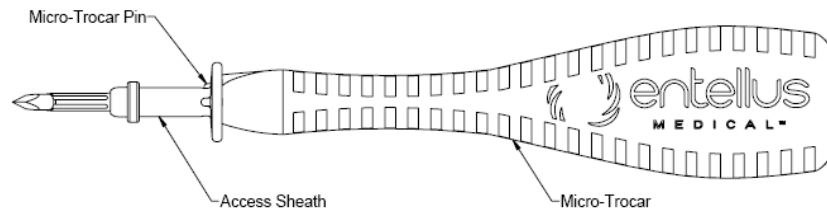

Figure 1 – Sinus Access Tools: Micro-Trocar Inserted Through Access Sheath
- b. Slide the Access Sheath onto the Micro-Trocar. Rotate Access Sheath on Micro-Trocar until Micro-Trocar Pin engages with Access Sheath allowing Access Sheath to lay flush against the Micro-Trocar (see Figure 1).